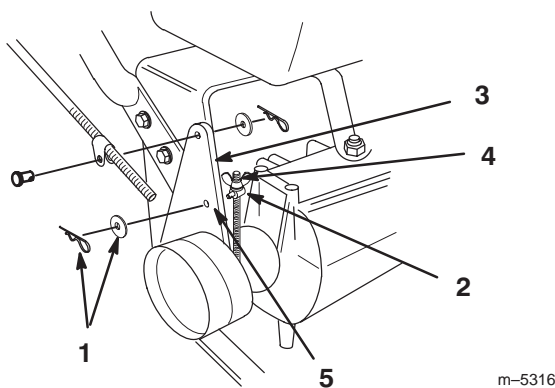

Figure 35
3. To adjust the brake remove the cotter pin and washer from the brake lever (Fig. 35).
4. Rotate the trunnion so it smoothly slides into brake lever hole “F” (Fig. 35). Tighten wing nut.
5. Secure trunnion to brake lever with washer and cotter pin (Fig. 35).